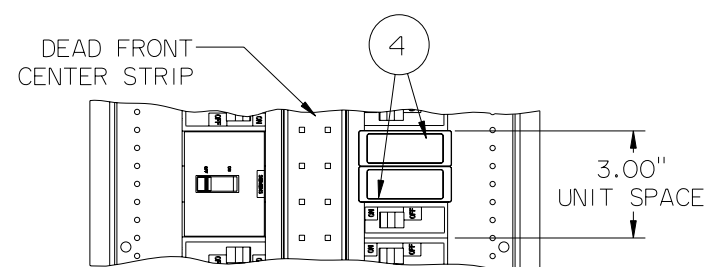

Figure 8
15. Refer to figure 8. - Insert 1" dead front fillers (item 4) into all P2 & P3 dead front branch spaces not filled with breakers.